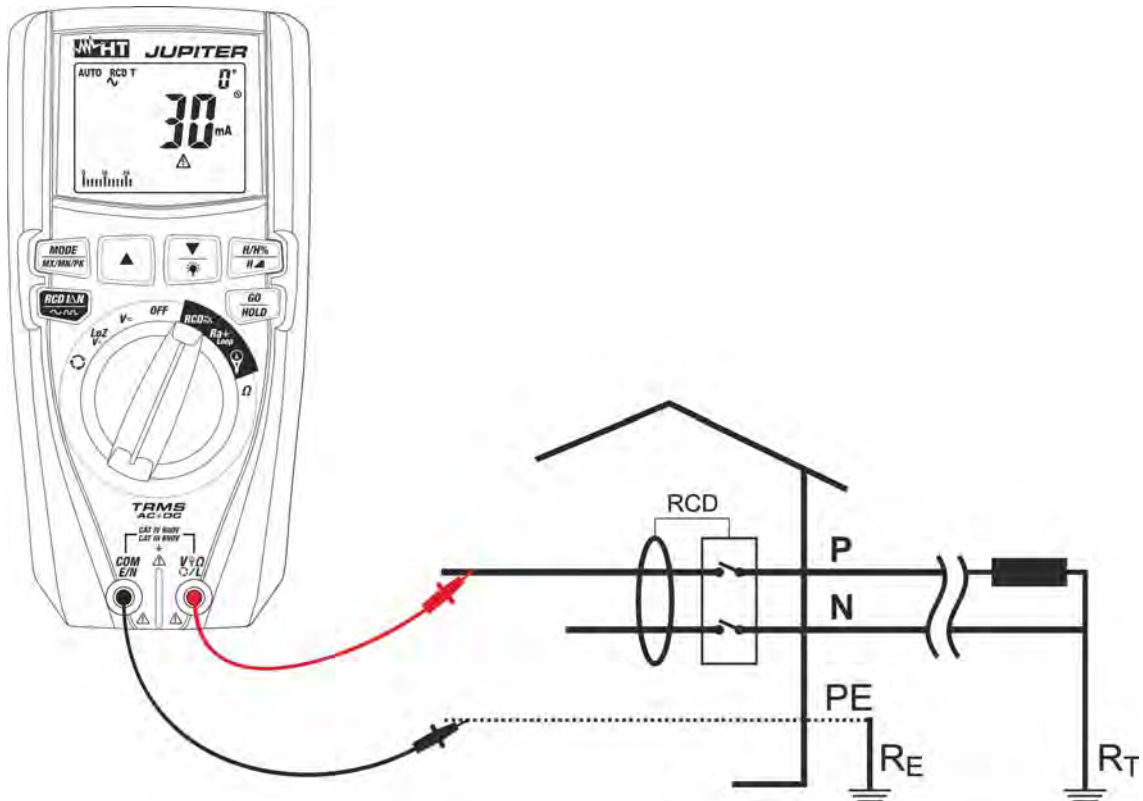
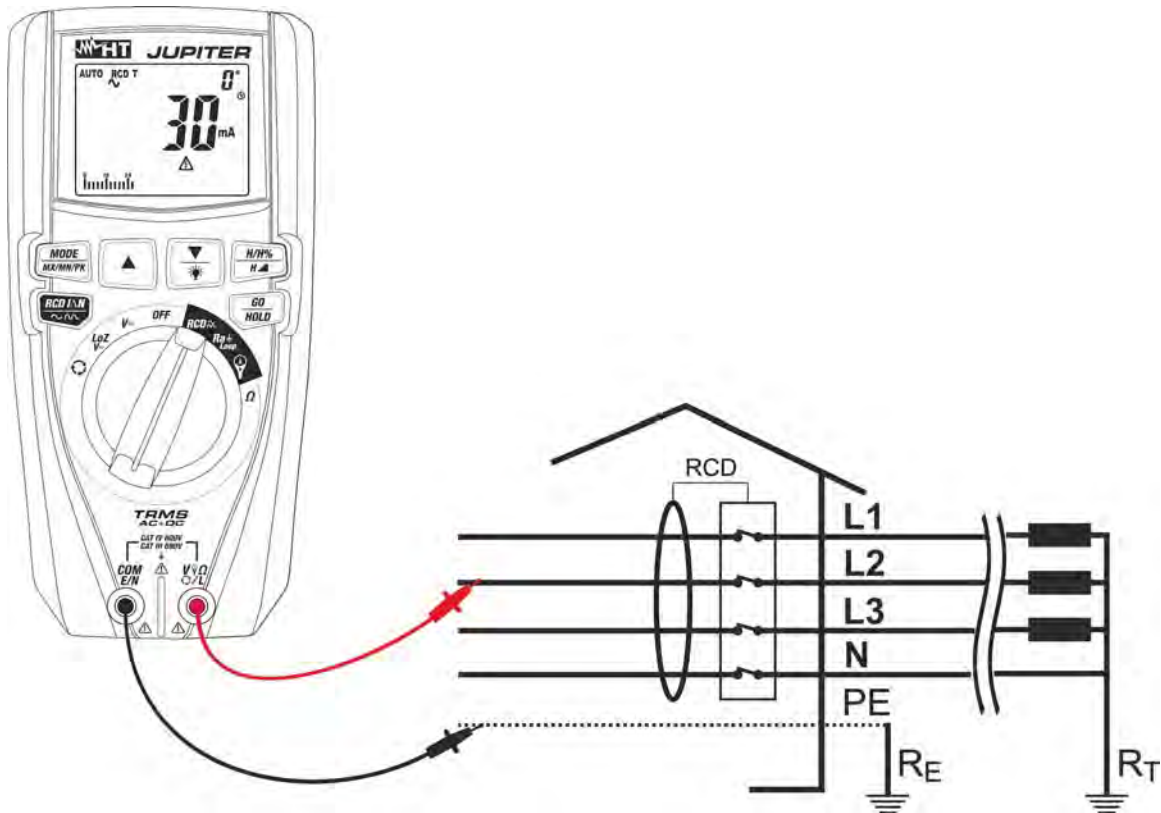

Fig. 30: Use of the instrument for RCD test on single-phase system with leads
Fig. 31: Use of the instrument for RCD test on three-phase system with leads
7. In case measuring leads are used, insert the red conductor into input terminal **V $\Omega$ L** and the black conductor into input terminal **COM/E/N** and connect the instrument to the system to be tested (see Fig. 30 or Fig. 31). The presence of phase-to-earth voltage is shown in the bargraph